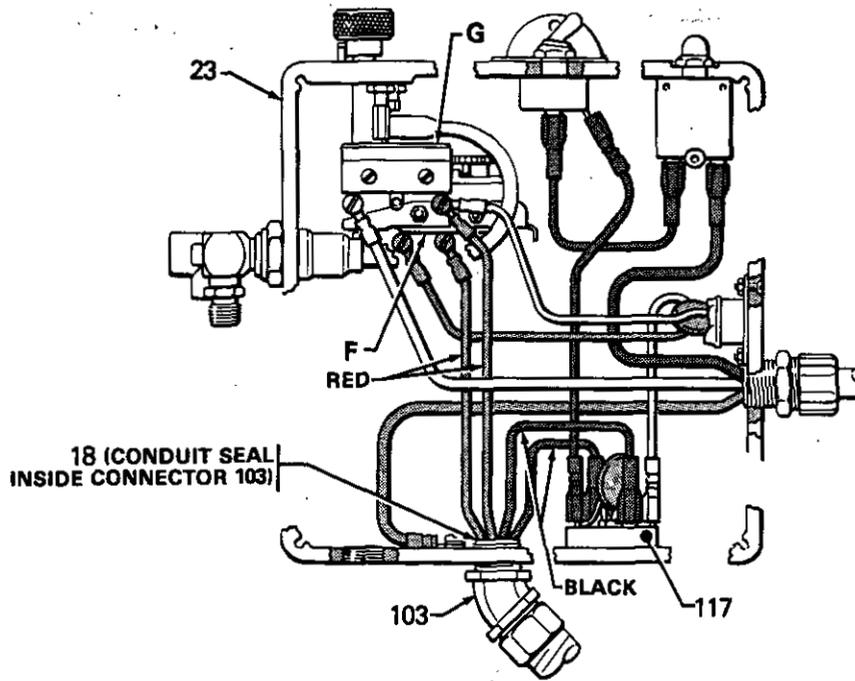

Fig 15
MOTOR REPLACEMENT (Refer to Fig 15 and 16)
1. Disconnect the pump outlet hose (30) from the displacement pump outlet nipple (32).
2. Remove the screws (20) and pressure control cover (21) and disconnect the four motor leads: a red one from the pressure switch (F), a red one from the over-pressure switch (G), and two black ones from the bridge (117). See Fig 15.
3. Use an adjustable wrench to loosen the conduit connector nut (103) at the pressure control assembly (23).
4. Swing the conduit (27) away from the conduit elbow (103).
5. Remove the conduit seal (18) from around the wires in the pressure control. Pull the motor leads through the elbow, one at a time.